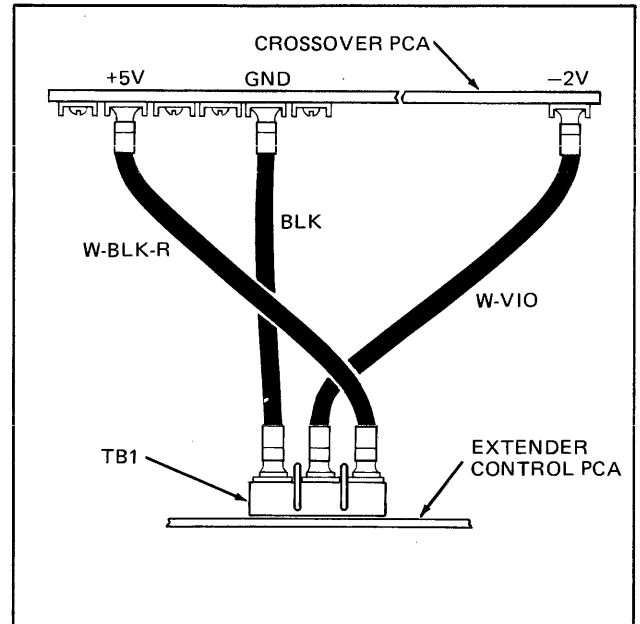

Figure 3-2. Extender Control Power Connections
- c. Lift extender control PCA away from extender mainframe to access terminal block TB1. (See figure 3-2.)